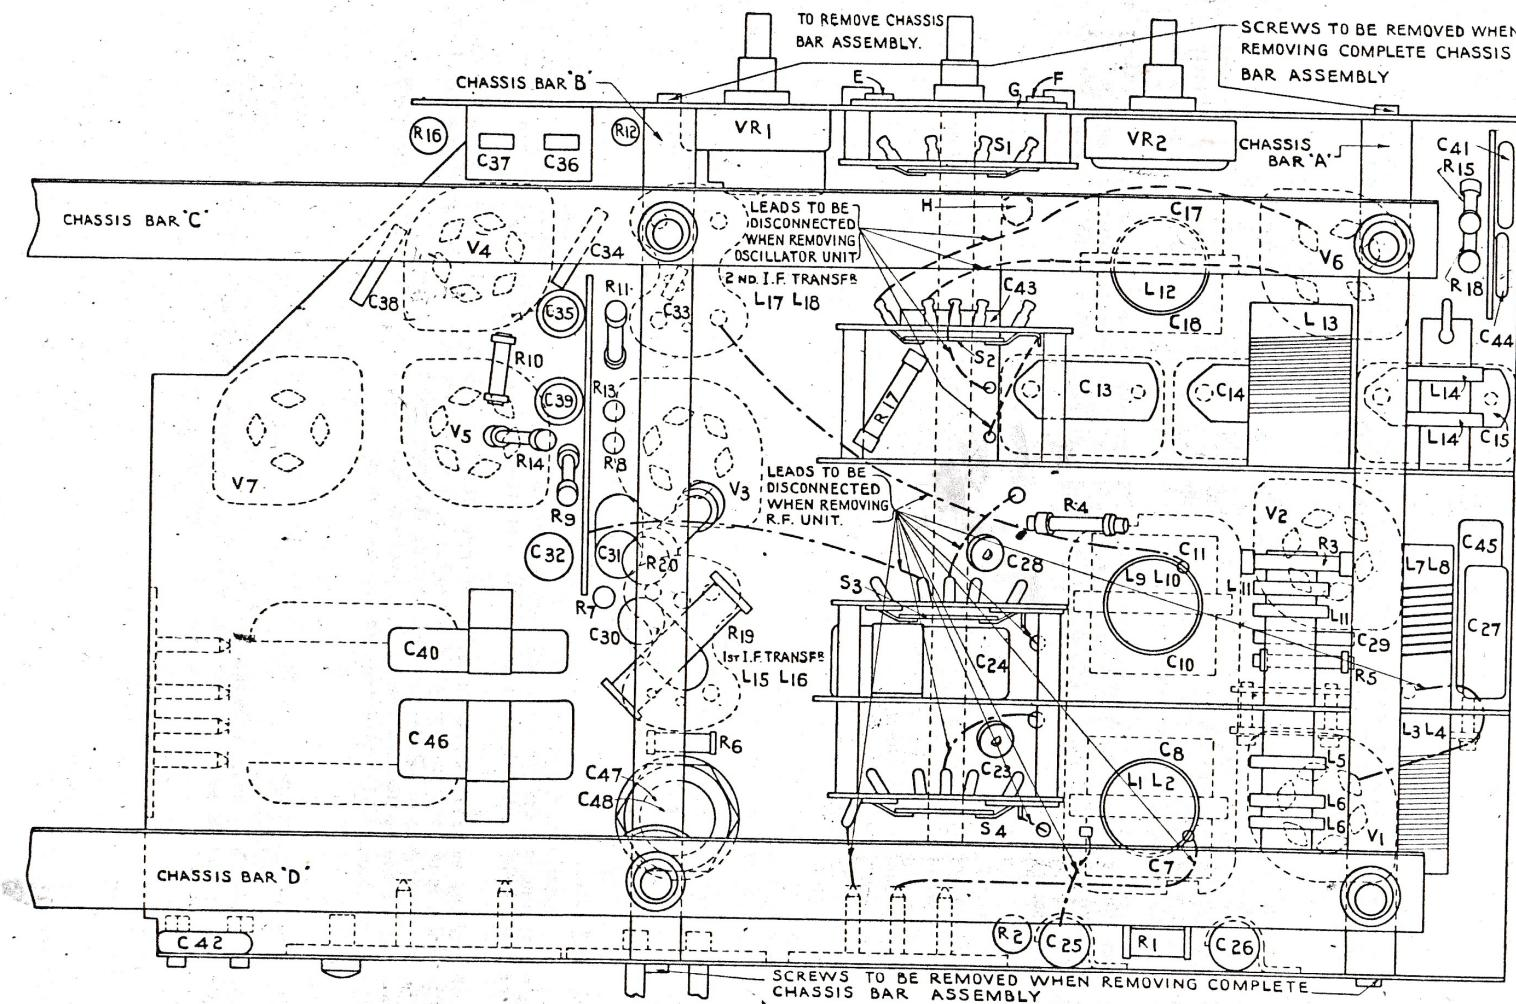

Fig. 5. View of underside of chassis.
To remove either unit first remove the eight cheese headed screws which hold the transverse chassis bars (A and B Fig. 5) to the vertical faces of the chassis. The transverse bars may now be removed with the two longitudinal bars (C and D Fig. 5) still mounted thereon.
Also unscrew the two self tapping screws (E and F Fig. 5) which hold the switch location plate (G Fig. 5) to the front of the chassis, and after turning the switch to the gramophone position (fully clockwise) withdraw the switch spindle complete.
1. Unsolder the oscillator grid and cathode wires which run from the oscillator valve holder to the switch member (S2 Fig. 5) and disconnect the two wires from the gang condenser. All four wires are indicated on Fig. 5 and should be unsoldered at the switch end.
2. From the bottom of the chassis, unscrew the self tapping screw (H Fig. 5) which holds the front edge of the oscillator unit to the chassis. This screw is located one inch from the front edge of the chassis and one inch to the right hand side of the gang spindle.
The aerial section is that nearer the back of the chassis. In this section there are five wires (indicated on Fig. 5) to be disconnected as follows:—
1. Unsolder the two gang condenser leads to the switch member (S4 Fig. 5) at the switch end.